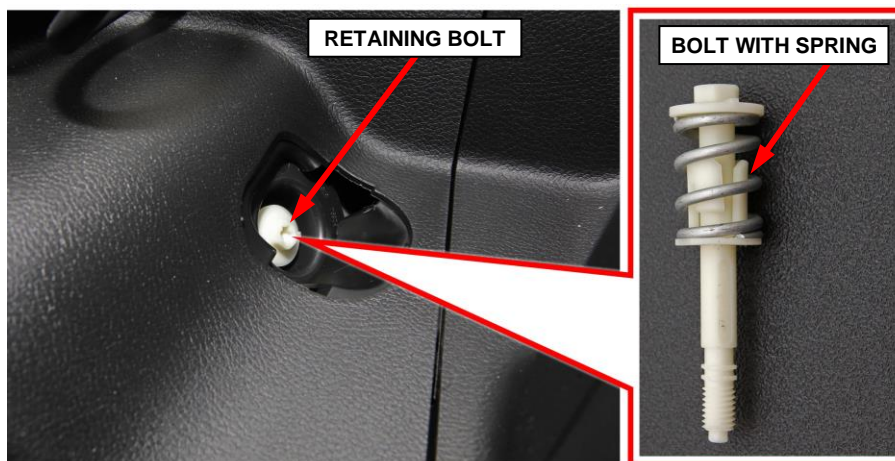

Figure 3 – Tail Lamp Retaining Bolt
4. Remove the retaining bolt with spring securing the tail lamp (Figure 3).
12. Install and tighten the tail lamp retaining bolt with spring to 1.9 N·m (16.8 in. lbs.) (Figure 3).